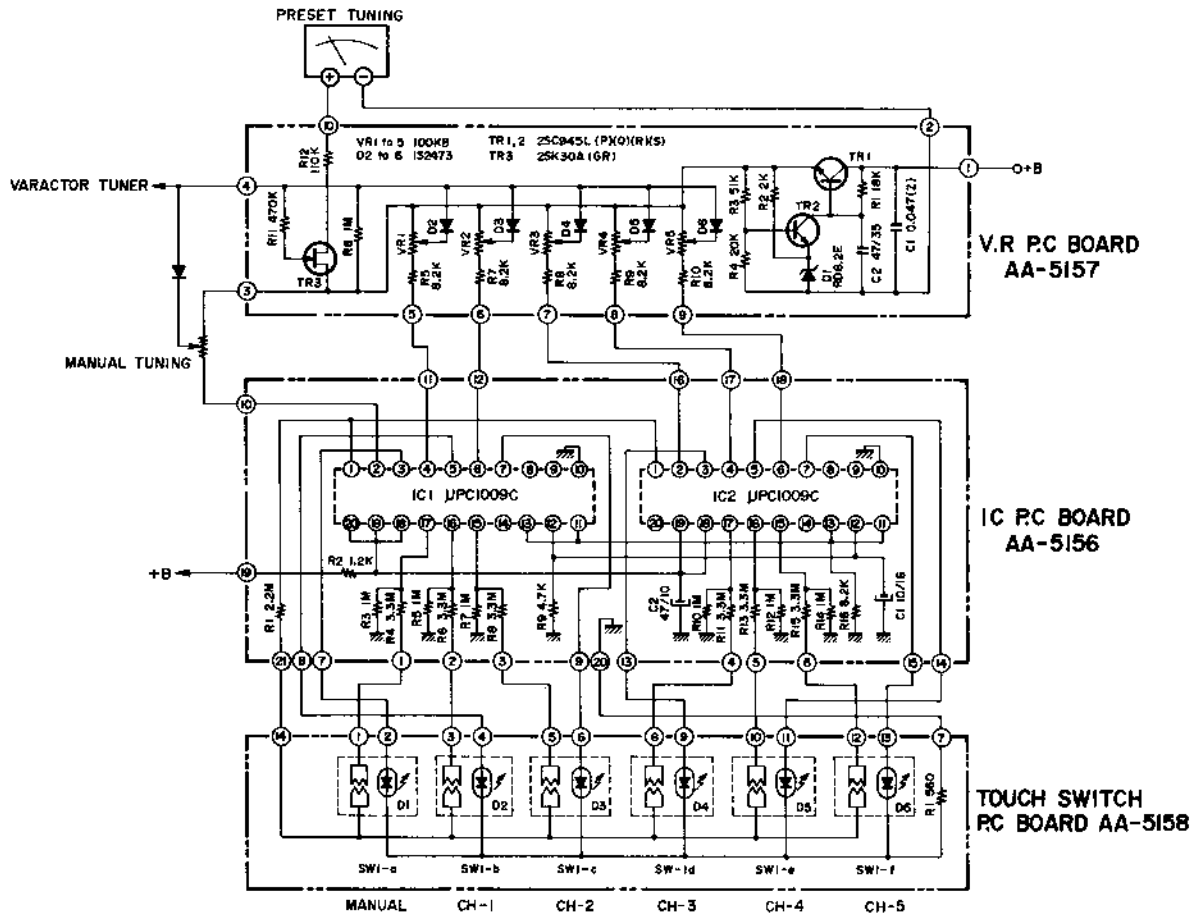
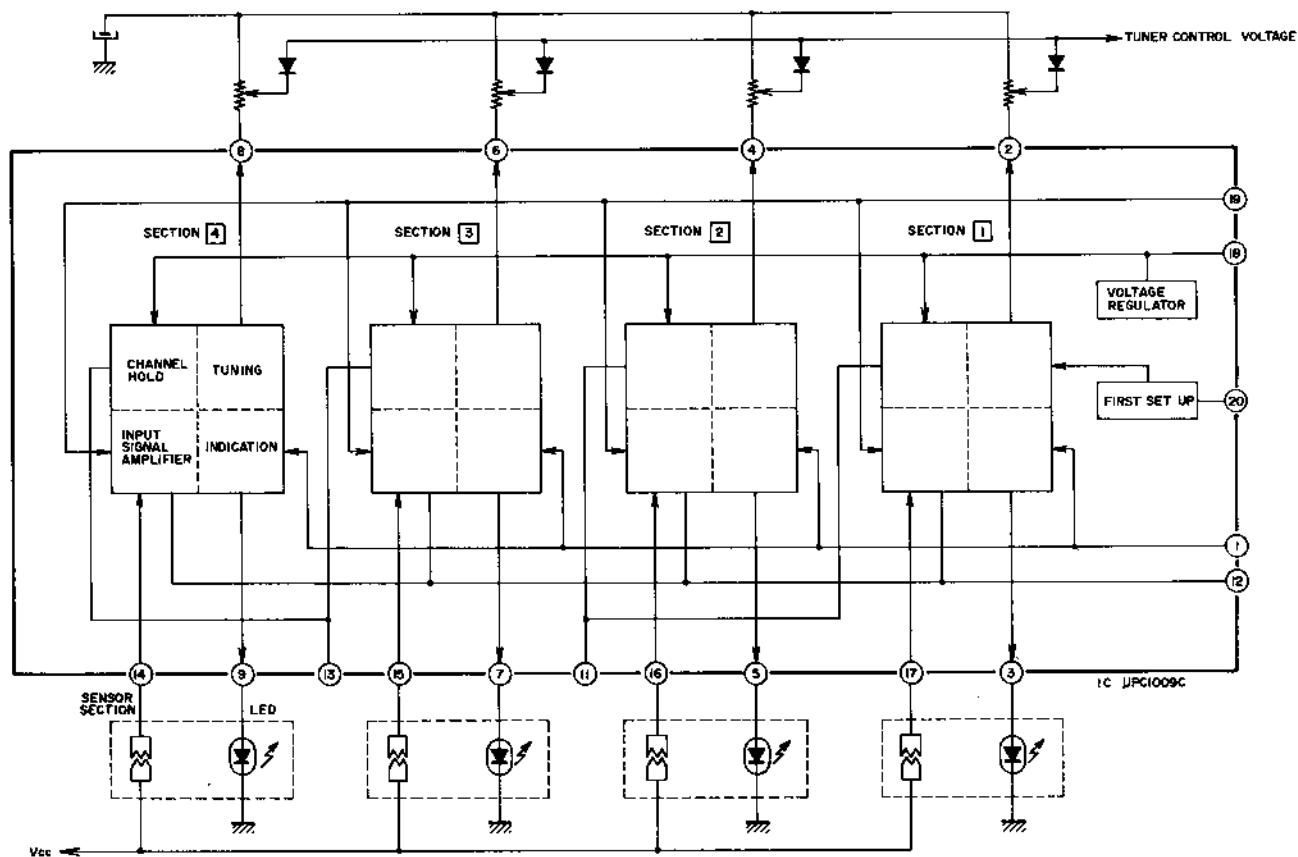
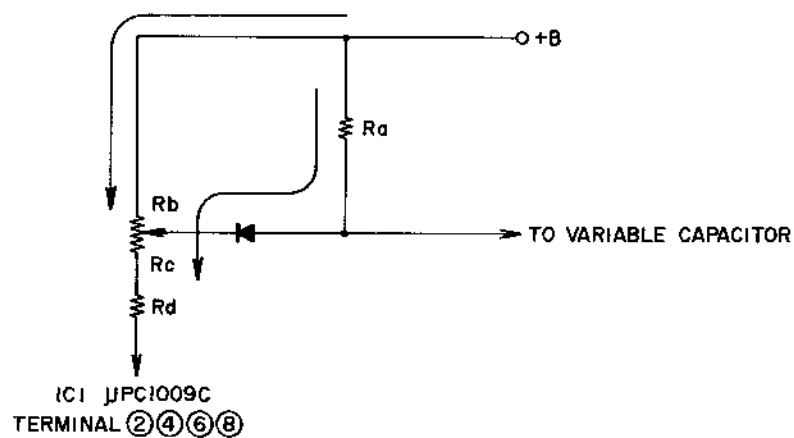

Fig. 7
Fig. 8
Fig. 9
The circuit shown in Fig. 7 is the control voltage generating preset volume and sensi-touch circuit. Fig. 8 shows the inside of circuit sensi-touch IC μ PC1009C which include the 4 channel circuitry. Terminals 14 through 17 are the input terminals; terminals ②, ④, ⑥, and ⑧ are the station selection output terminals; and terminals ③, ⑤, ⑦, and ⑨ are the pilot output terminals. When channel 1 sensor electrode is touched, voltage is supplied to the IC as the input signal through finger (body) resistance at terminal ⑰. Then, the impedance is lowered at IC station selector output terminal ② and current flows as shown by the arrow marks in Fig. 9. Consequently, because the supply voltage to the varactor tuner diode is changed by the dividing ratio of R_b and R_c , station selection is possible by means of setting the preset volumes beforehand according to the desired broadcast frequencies.